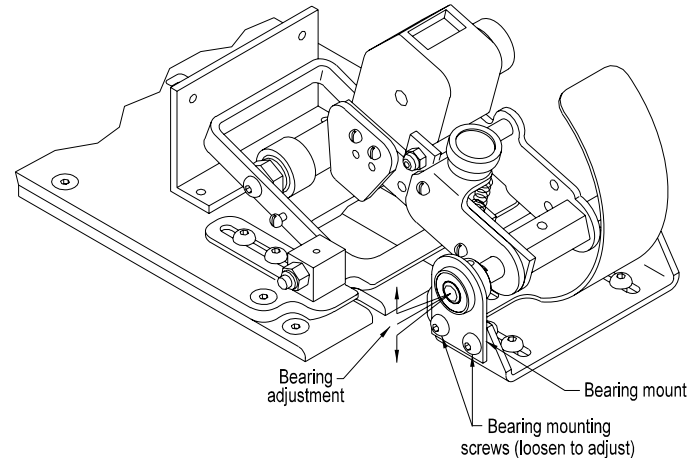

Figure 3.19
1. Adjust the print force to a very light setting to accentuate the variation in the print quality. Verify that the type is being properly inked. If the line of printing is not uniform, the bearing mount (Figure 3.19) can be moved vertically to raise or lower that end of the printer shaft.